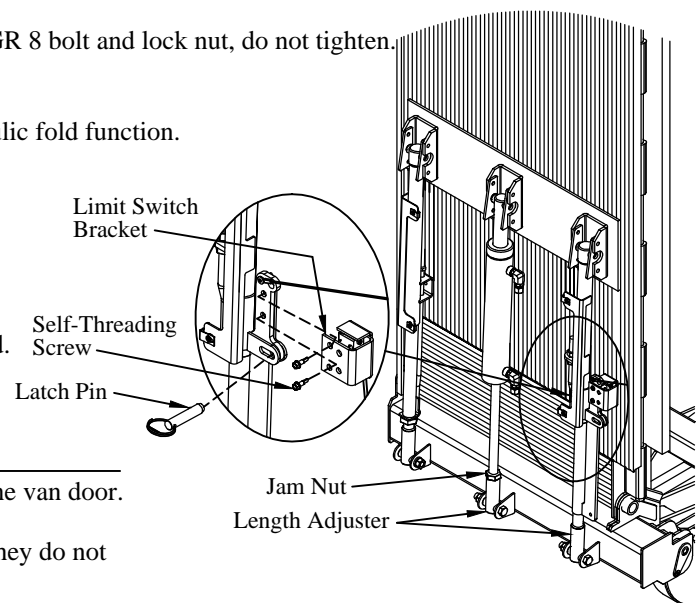

Figure 20: Platform latch and adjustment.
4. **Install** the limit switch bracket on the passenger side support arm with two (2) #12 self-threading screws. See Figure 20 for bracket shipping location. Make sure that the limit switch is not in the pushed position.
3. **Support** the platform to keep it from falling or hitting the van in the next steps (Figure 20).